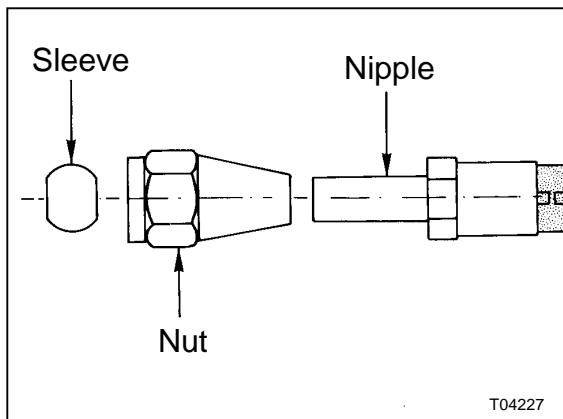

Figure 26: Hose nipple, sleeve and nut
- 5) Slide the nut, followed by the sleeve, on the hose nipple (see Figure 26). Insert the nipple in the appropriate connector body of the ABS valve, until it bottoms on the seat.